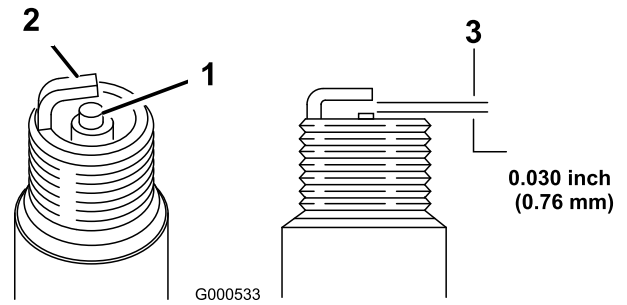

Figure 28
5. Set the gap on the plug to 0.76 mm (0.030 inch) (Figure 28).